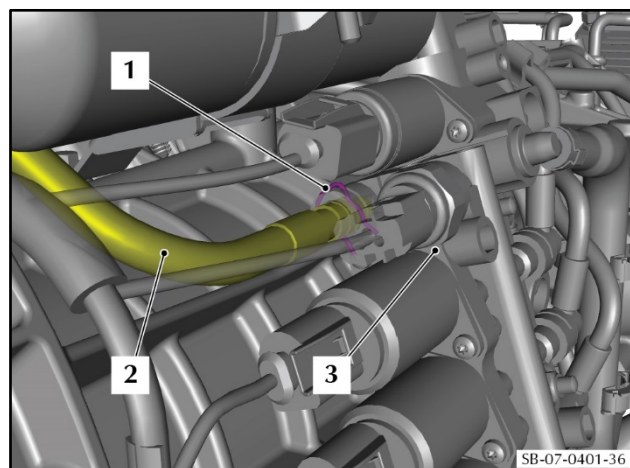

Figure 38
71. On the transaxle assembly, remove the clip (1) that attaches the clutch fluid hose (2) into the valve block (3) (refer to Figure 38).
72. Disconnect the clutch fluid hose (2) from the valve block (3).
73. Discard the clutch fluid hose (2).
74. Install the new hose (2) from the EVO pipe kit C (refer to Part Data).
75. Install the new retaining clip (1) to hold the hose (2) into the valve block (3).